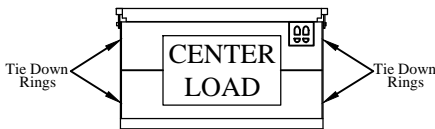

Figure 8: Step 9.
- Step 9. To load and use the railgate, center the load on the platform side to side and front to back (Figure 8). Put heavier loads as close to the front of the platform as possible (near truck). Tie Down Rings are provided for securing the load. Retention Ramp may be moved to Vertical or Loading Position at this time.
- Stand in the area indicated by the footprints in the figure below (Figure 8), keeping hands and feet away from the edges and any moving parts.